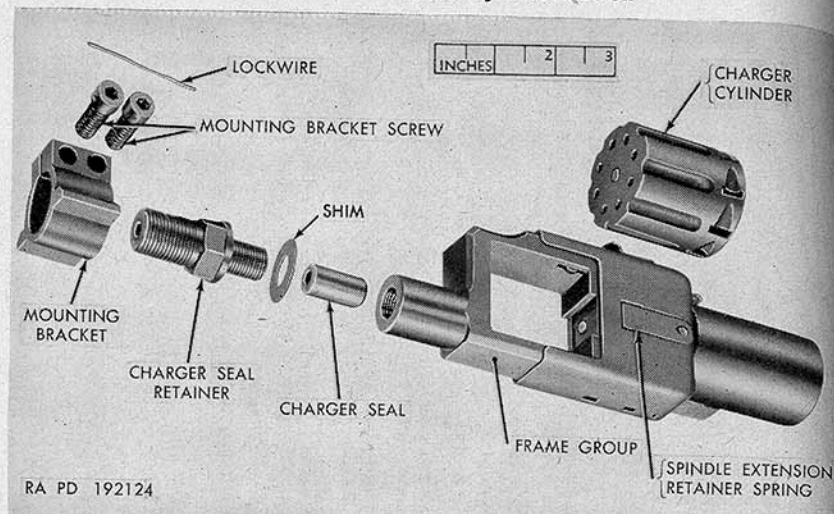

Figure 84. Charger parts—exploded from charger frame group.
- b. Remove lockwire (fig. 84).
- c. Remove the two mounting bracket screws (fig. 84).
- d. Withdraw the mounting bracket (fig. 84).
- e. Unscrew the charger seal retainer and remove the shim and charger seal (fig. 84).